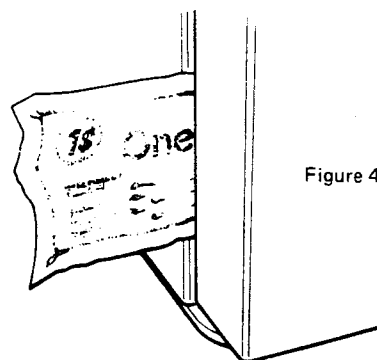

Figure 4
4. Check door seal all around. Put a dollar bill in the door as shown in Figure 4. When the door is closed, the bill should stay firmly held. If the bill slips, the door seal is not good. Smooth out the door sealing gasket. Look to see if the gasket on the door is twisted. Adjust the door with hinge pins as shown in Figure 5.